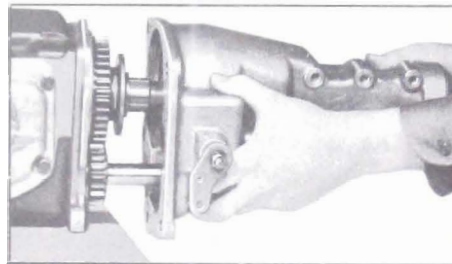

Figure 4-44—Installing Case Extension to Transmission Case
17. Place the two clutches in neutral position. Pull reverse shifter shaft to left side of extension and rotate shaft to bring reverse shift fork as far forward in extension as possible. Start the extension onto the transmission case (Figure 4-44) while slowly pushing in on the shifter shaft to engage the shift fork with the reverse gear shift collar. When the fork engages, rotate the shifter shaft to move the reverse gear rearward, permitting the extension to slide onto the transmission case.